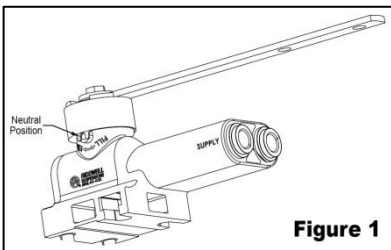

Figure 1
2. Make sure valve is set to the neutral position (Figure 1) and air is applied to the bags.
1. Check the torque on the U-Bolt/Tie Plate nuts by alternately tightening opposing corners of the clamp assembly (see Figure 1).
1. Loosen the adjustable track rod clamp bolts (see Figure 1) and turn the center rod to adjust as necessary (see torque min/max table).
2. After adjusting, tighten the adjustable track rod clamp nuts (see Figure 1) to proper torque (see torque min/max table) and recheck measurements.